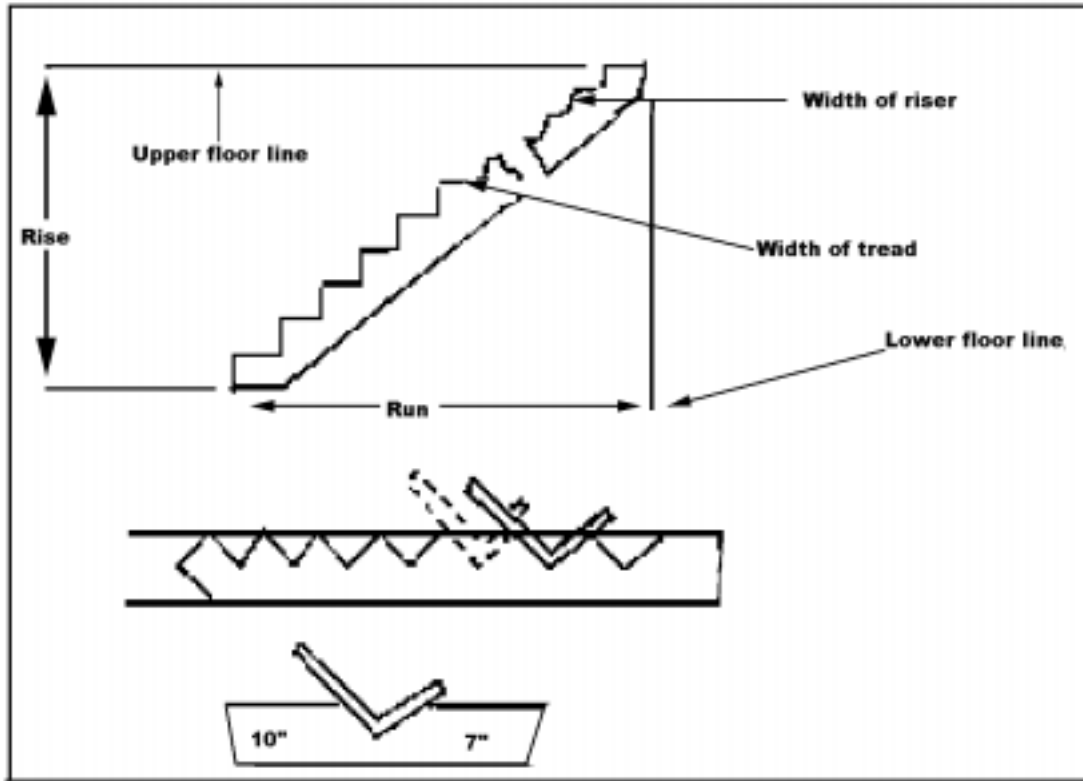

Figure 051-236-1143-3
- (2) Lay out the upper end of the stringer.
- (b) Rotate the framing square 90 degrees to the left and draw line BC. Line BC represents the vertical edge that is anchored to the stairwell header (Figure 051-236-1143-3).